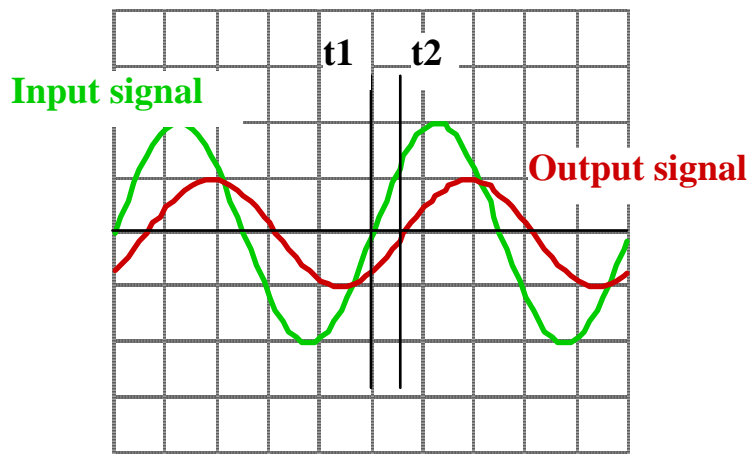

Figure 2. Measurement of phase shift.
The phase of the output wave relative to the input wave can be determined using a procedure similar to that used for measuring the period of a wave. Figure 2 shows two waveforms which represent the input to and output from a circuit displayed on an oscilloscope. Note first that the two signals have the same period and, therefore, the same frequency; however, they are shifted in time relative to each other. You will measure this time shift between the two signals, and then calculate the corresponding phase shift.
As shown in Figure 2, set the  $t1$  time cursor at a location where the input signal crosses the time axis with a positive slope. Then set the  $t2$  time cursor to the first following point at which the output signal crosses the time axis with a positive slope. Since, in one period the phase of a periodic wave changes by  $2\pi$  radians or  $360^\circ$ , the phase shift,  $\Delta\phi$ , is given by
- Measure the period of the input wave and record your result in Data Table 1. Then, as shown in Figure 2, set the t1 time cursor at a location where the input signal crosses the time axis with a positive slope. Then set the t2 time cursor to the first following point at which the output signal crosses the time axis with a positive slope.